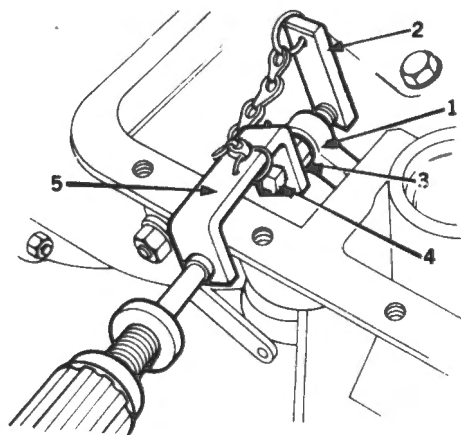

Fig. M-39
- 3 Remove the strut (2) from the reservoir (3) and converter housing (4). Remove the fluid reservoir bolts and washers (5) and detach the reservoir and gasket (6).
- 4 Move the servo lever (1) Fig. M-39 outward and using gauge BWA34 fitted (2) between the adjuster and the servo body.
- 5 Release the locknut (3).
- 6 Tighten the adjusting screw (4) to 1.1 Nm (10 lb.f.in.) using adaptor (5) BW548/2 and a suitable tension wrench W & B 320300.